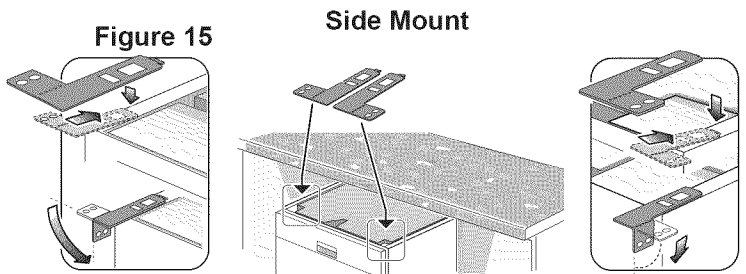

Figure 15
1. **Side Mount** is used for countertops made of marble, granite, or other very hard materials that cannot be easily drilled. Bend the mounting brackets along the small holes and in the same direction as the two small tabs. Orient the mounting brackets as shown in Figure 15, and position the two small tabs on the mounting brackets over the two slots on the dishwasher's front corners. Push the mounting brackets down firmly to insert the tabs into the slots.